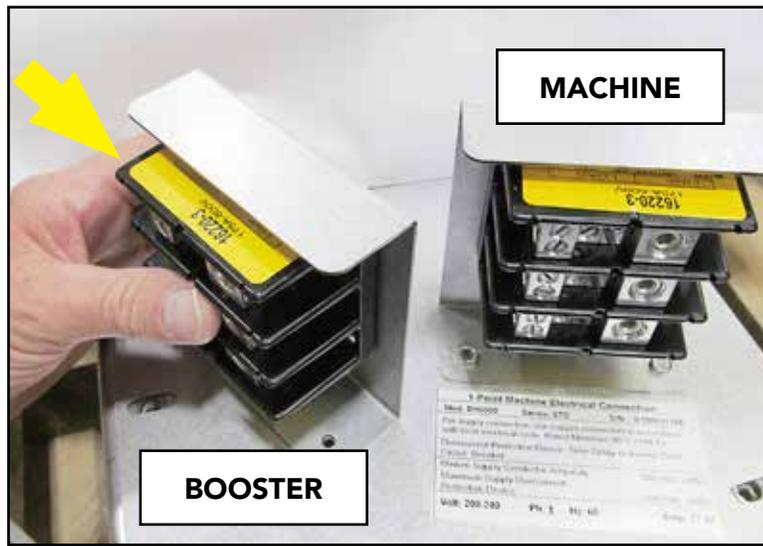

Fig. 4
6. Position the Booster terminal block and make sure the booster wires disconnected in step 4 will reach to the block. (Fig. 4).